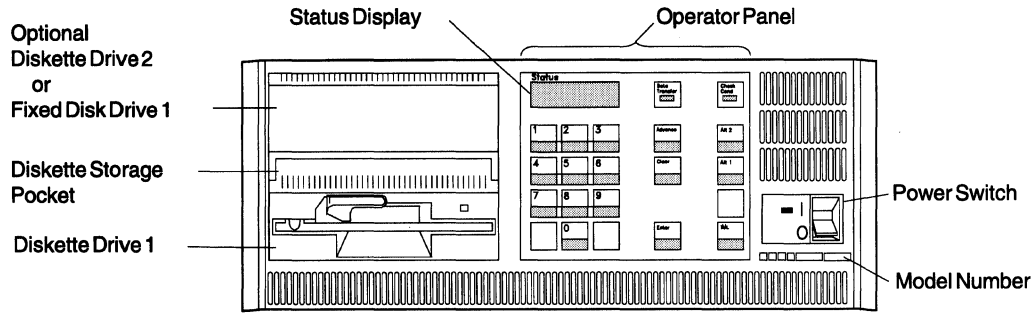

Figure 1-3. 3174 Models 51R, 52R, 53R, 61R, 62R, 63R, and 64R
- 51R, 52R, 53R, 61R, 62R, 63R, and 64R. See Figure 1-3 on page 1-5.